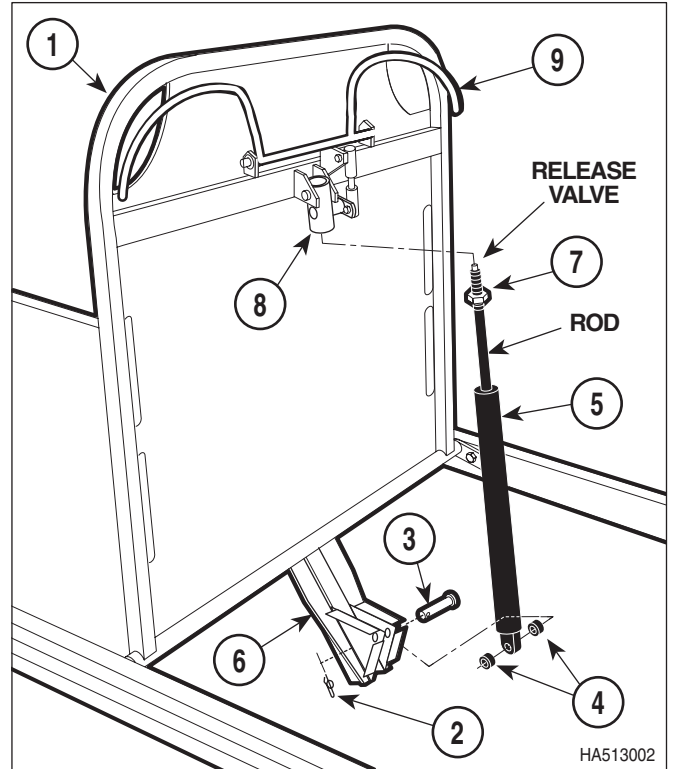

Figure 4-19. Fowler Gas Spring Removal / Installation
- (1) Raise the Fowler (1, Figure 4-19) to the "up" position if possible.